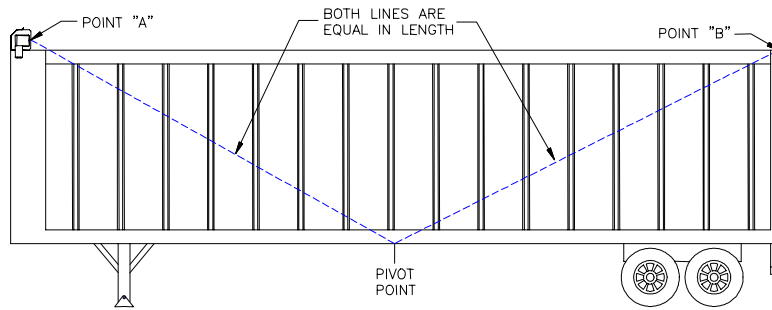

FIGURE 1
- 1) To find the pivot point, pull one tape measure from point “A” and a separate tape measure from point “B”. Next cross the tape measures at the bottom-middle of the trailer body where the two measurements are equal – mark the spot beneath where they cross. This is your pivot point. (See Figure 1)
- 2) Use the underbody spring assembly as a guide to determine the hole position for mounting. Ensure the center of the mounting plate is aligned with the pivot point as shown in figure 1. Drill two 9/16” holes in line with the holes in the pivot mount.